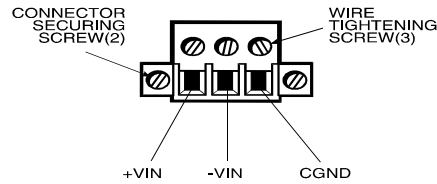

Figure 2-8. DC Power Connector
4. Insert the three wire ends of the power cable into the three holes of the block plug. Insert the Protective Earth GND ground, + (positive), and - (return) wires into the corresponding holes, as shown in Figure 2-8. Be sure that no bare wires are exposed.